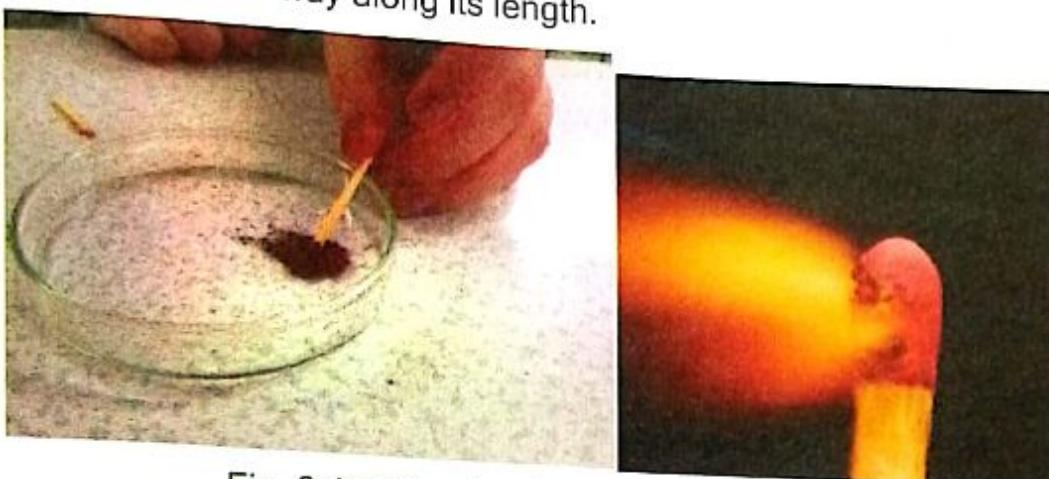

Fig. 2.4: Extracting iron on a match head
2. Roll the damp match head first in charcoal powder, then in iron (III) oxide powder, as shown in Figure 2.4.